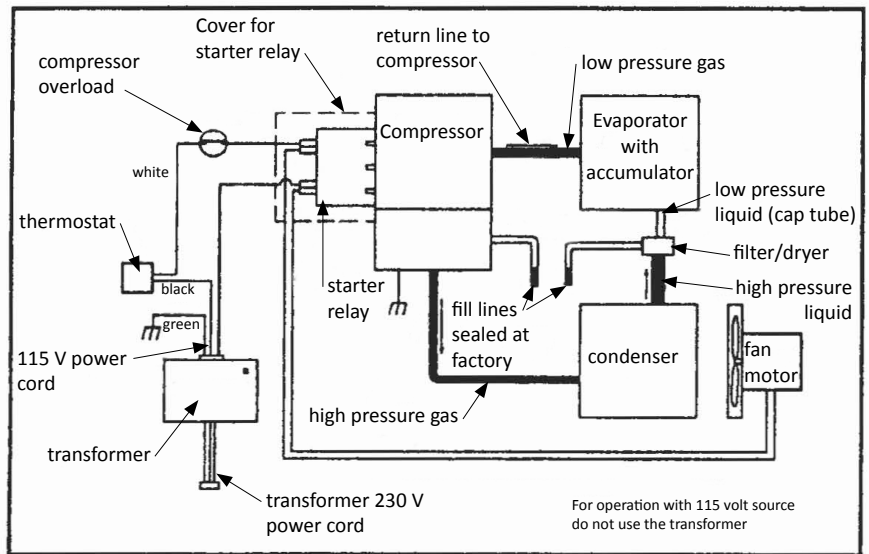

Fig. 2-2. Refrigerator Functional Block Diagram
2.6 Refer to fig. 2-2. a functional diagram of the system, and to figs. 4-1, 4-2, and 4-3, which show the components and their location in the refrigerator. To follow the explanation, refer to these figures.
c. On fig. 2-2, look at the starter relay. This relay performs 2 important functions: It brings both the thermostat and condenser fan motor into the compressor start circuit, and it provides the required sequence for bringing the compressor to full power. When the thermostat closes, the circuit between the 115 volt power cord and the terminal of the starter relay is completed, and electricity flows through the starter relay and into the start-up and run windings of the compressor. The compressor's electrical motor comes up to speed within one or two seconds and in doing so, allows the power to the starter windings to be disconnected by way of its relay. Also the completion of the electrical circuit provides power to the condenser fan motor. If the fan does not operate the compressor will overheat and cycle off by way of its thermal overload. Connections are shown in fig. 2-2. Notice that EITHER fan motor line can be connected to either terminal on the compressor starter relay. Looking at the connections you will see that each of the two fan motor lines go to each terminal, secured by a spade lug connection.
f. Fig. 2-2 shows a system that uses a 230 VAC power source. If your system uses a primary source of 115 VAC, the transformer is not required: plug the 115 VAC electrical plug into the 115 VAC outlet.
h. Refer to fig. 2-2. It is important to notice that a failure of the starter relay can appear to be a failure of the compressor. When the relay functions as it should in normal operation, closing of the thermostat's relay allows 115 VAC to flow from the black lead of the refrigerator's power cord through the contacts of the thermostat, along the return wire lead from the thermostat to the compressor's overload, then to the starter relay. The relay activates the compressor and condenser fan motor. The white lead